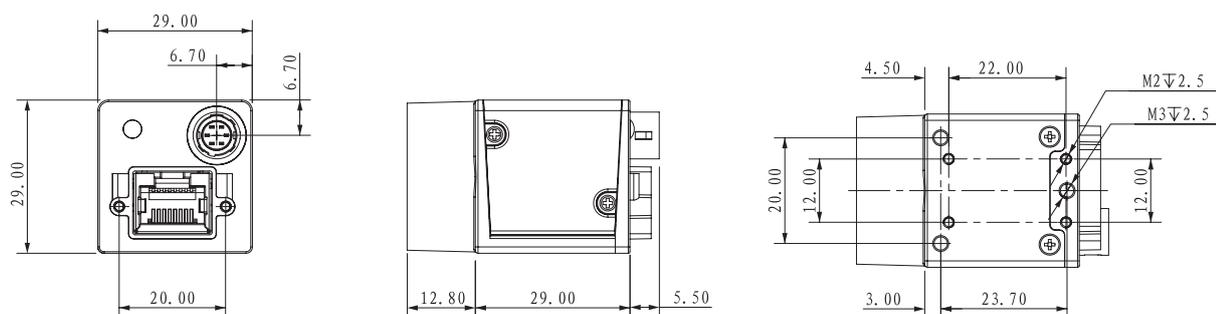

Fig. 1-2: Mechanical Dimensions (in mm) for GigE Cameras with 29\*29\*29mm housing (with GPIO).
- GigE Cameras with 29\*29\*29mm housing are as shown in Figure 1-2.